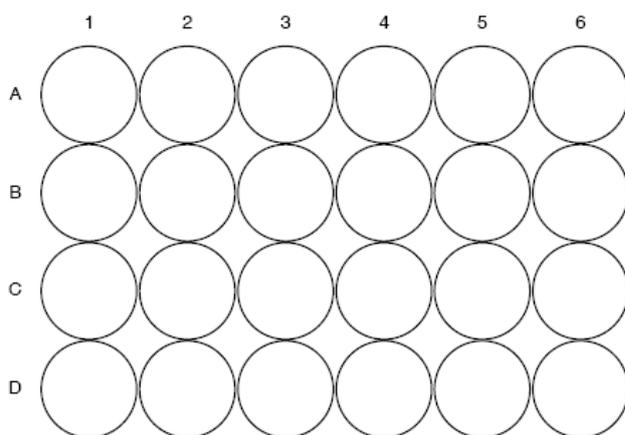

Fig. 1
2. Add 40 drops of the brass solution to well B3 (See Fig. 1). Compare the intensity of the colour of the brass solution with the wells around it. A piece of white paper may be placed under the well-plate to facilitate the comparison.